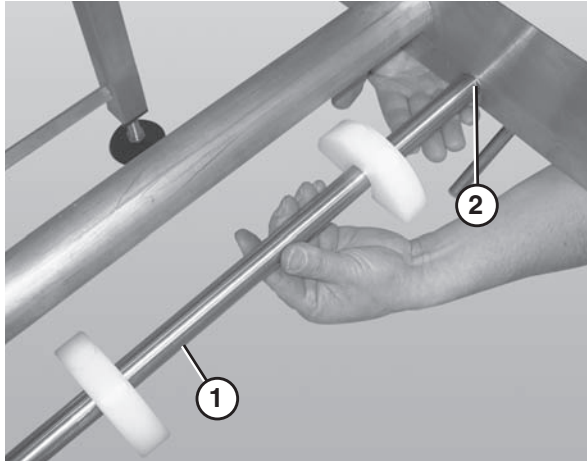

Figure 37
2. Slide the return shaft (Figure 37, item 1) up and through the large slot (Figure 37, item 2) in the frame (picture shown without the belt or wear strips).
3. Push up on the return shaft (Figure 37, item 1) and slide the notched end of the shaft through the small slot on the opposite side of the frame.